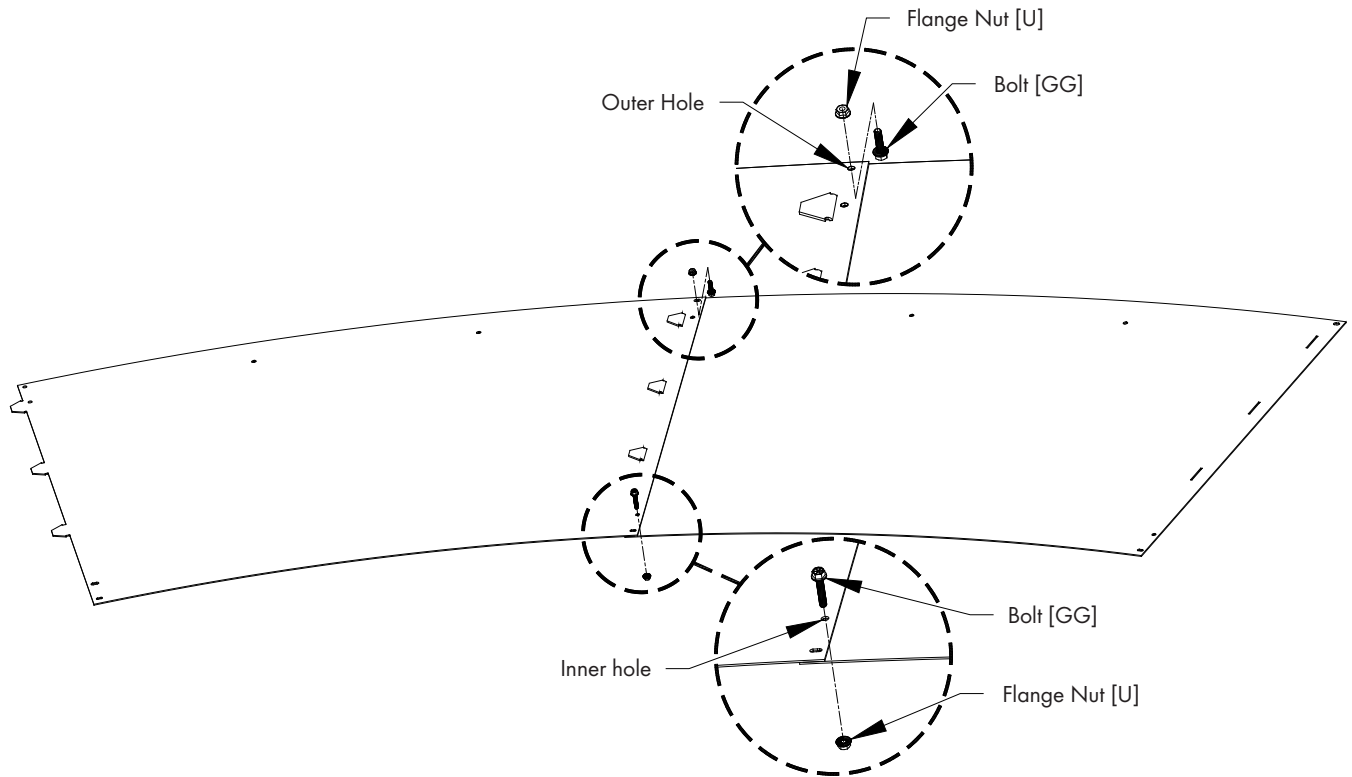

Figure 27A
Fasten each of the joints in the outer hole using (1) Bolt [GG] and Flange Nut [U], with the nut on the side with the tabs. At the inner pair of holes secure joint using (1) Bolt [GG] and Flange Nut [U] with the bolt head on the side with the tabs. See Figure 27A. Do NOT tighten at this time.